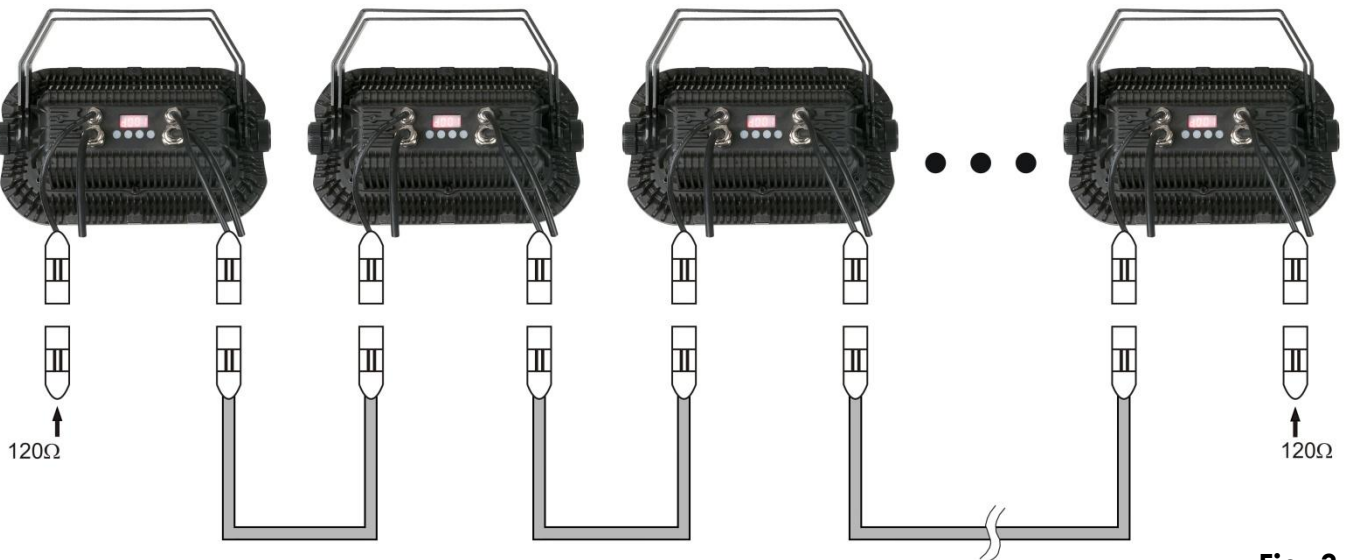

Fig. 3
3. Link the units as shown in (Fig. 3), Connect a DMX signal cable from the first unit's DMX "out" socket to the second unit's "in" socket. Repeat this process to link the second, third, and fourth units. You can use the same functions on the master device as described on page 12 and 13 (Built-in Programs, Autorun or Music control). This means on the master device you can set your desired operation Mode and all slave devices will react the same as the master device.